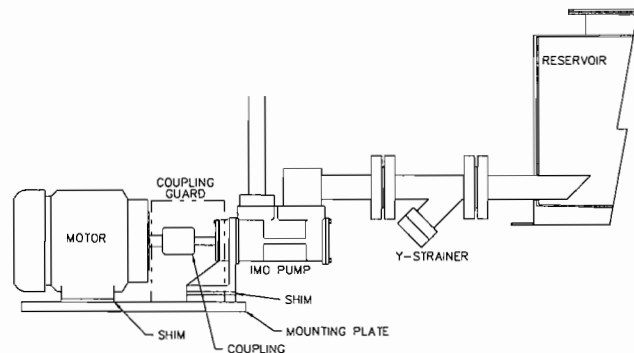

Figure 5. Horizontal Pump Mounting Assembly.
- Y strainers located externally of the reservoir allow for easy cleaning of the screen. This application requires additional components such as a suction isolation valve for the pump (Figure 5). The strainer typically is 100 mesh, which is intended to keep only coarse particles out of the pump. Opinion is, if this strainer ever becomes clogged; it is time to enter the tank and clean it thoroughly. Therefore, vertical pump mounts with internal strainers make the most economical design as the extra pump suction isolation valve is eliminated.